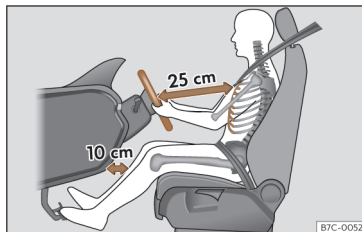

Fig. 17 The correct distance between the driver and the steering wheel must be at least 25 cm (10 inches).
- Adjust the steering wheel so that it is at a distance of at least 25 cm (10 inches) from the sternum >>> Fig. 17 and you can hold it with both hands on the sides, on the outside, with your arms slightly flexed.